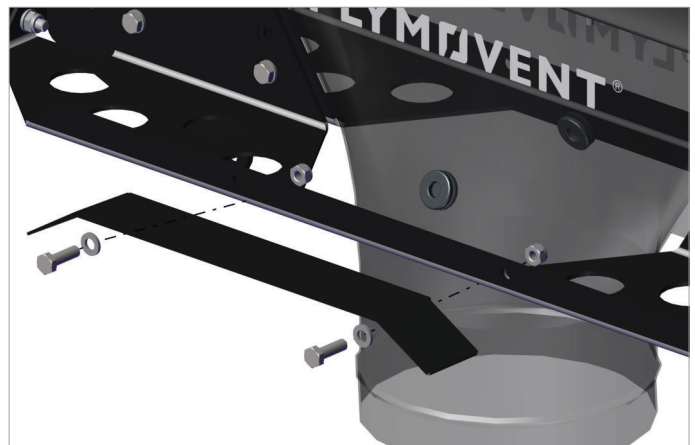

Fig. 5.3.4 Mounting the switch activation bracket on the crab
- Mount the switch activation bracket to the crab using 2x M6x20 bolts with washers and nuts. (in the case of an existing system with an older crab, make sure to predrill holes in the crab!). Refer to fig. 5.3.4.